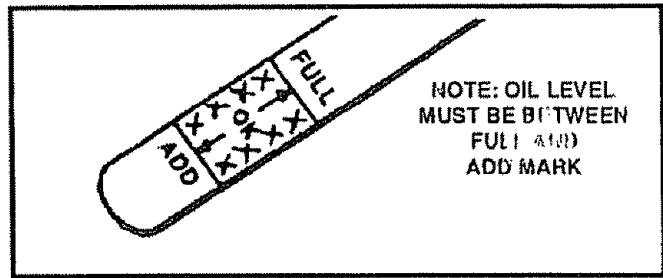

FIG. 21
Check the crankcase oil level (See Fig. 21) before starting the engine and after each five (5) hours of continuous use. Add S.A.E. 10W-30 motor oil or equivalent. Tighten fill cap/dipstick securely each time you check the oil level. S.A.E. 5W-30 motor oil may be used to make starting easier in areas where temperature is consistently 20° F or lower.